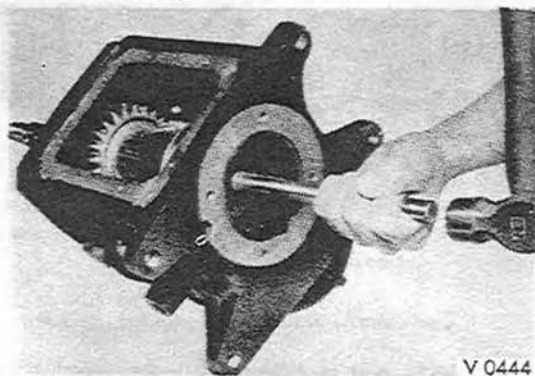

Fig. 3-19. Removing the rear bearing from the transmission case.
12. Use a brass rod, and gently tap the spline shaft until the rear bearing is driven out of the case. (Fig. 3-19)